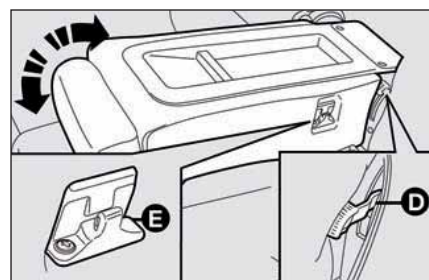

fig. 44
- ☐ operate the lever **D**-fig. 44 (one per side)
To arrange the central unit back in vertical position, operate lever **D**-fig. 44 again (one on each side) and realign the unit with the side backrests and make the safety clip **E**.
Pull the ribbon **F**-fig. 44 and push forward the upper part of the backrest until the retainer clicks. Accompany the backrest to the horizontal position and release the ribbon **F**. Reverse the operation to reposition the backrest in vertical position and make sure that the retainer clicks.